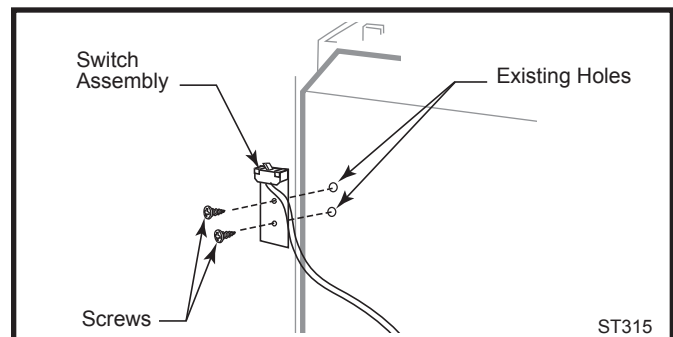

Fig. 50 Attach switch assembly to rear shroud.
1. Attach switch assembly to left rear side of stove shroud (when facing shroud) using two screws and existing holes in shroud. (Fig. 50)